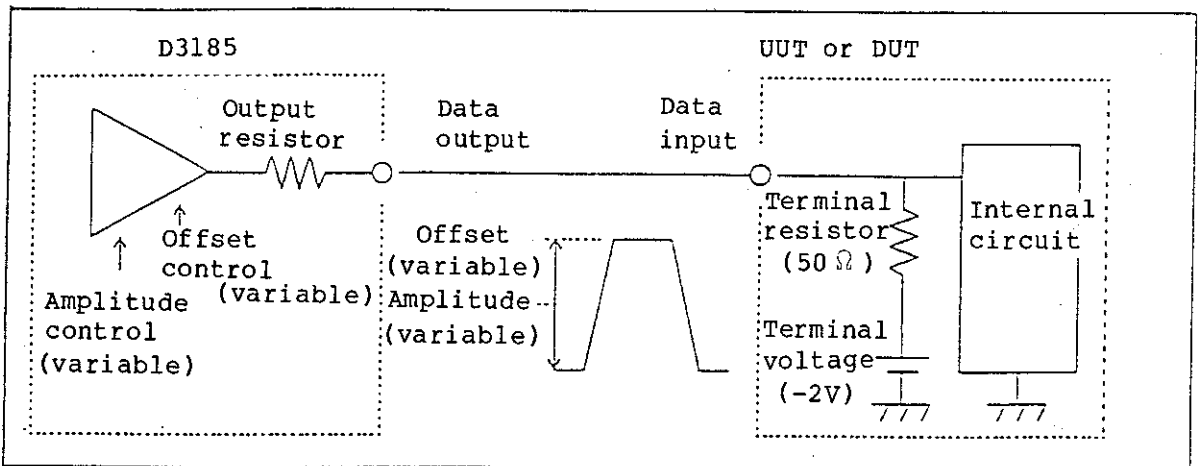

Fig. 4-2 With Data Output Used, -2V Termination and ECL Level
- (2) If the UUT or DUT data input terminator voltage is -2V and at ECL level (See Fig. 4-2.)